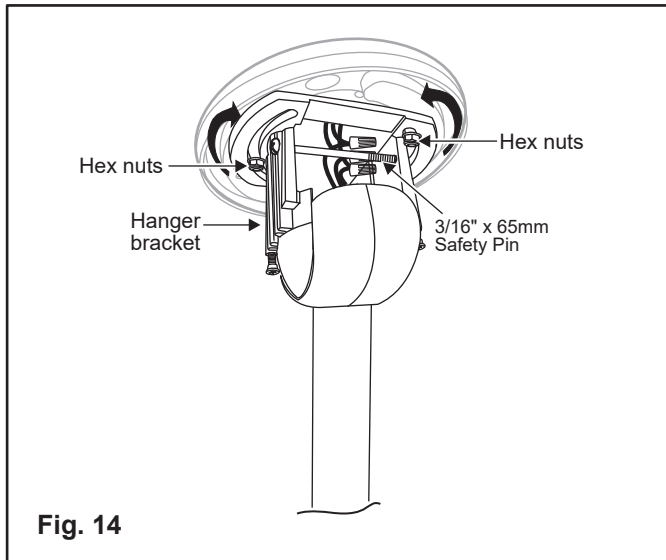

Fig. 14
1. Now, rotate the "entire fan and slope adaptor assembly" (left or right) by rotating the hanger bracket until the downrod and the ceiling fan assembly are hanging straight down and the entire assembly "swings" freely in the exact direction of the ceiling slope. (Fig. 14)
2. Now, Securely tighten the two (2) Hex Nuts holding the hanger bracket to the mounting plate. Making sure the Hanger Bracket is secure and can not move. **Next, securely tighten the 3/16" x 65mm Safety Pin.** (Fig. 14)